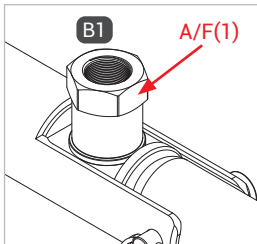

Figure 1
- ▶ When mounting media hose line, hold an open-ended wrench against the wrench size AF(1) (*Figure 1*).
- ▶ Screw the 'B1' media inlet pressure-tight to the port for the media line (*Figure 1*).